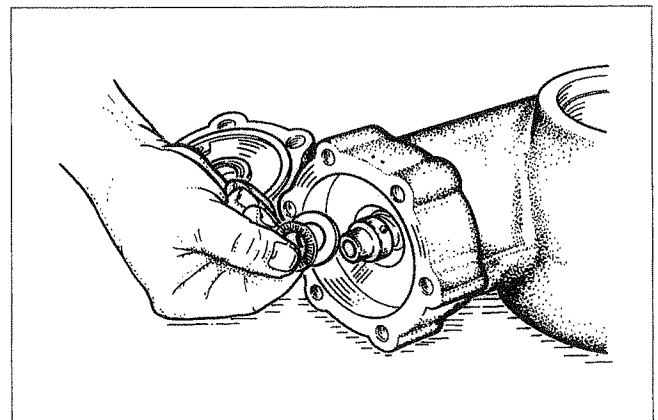
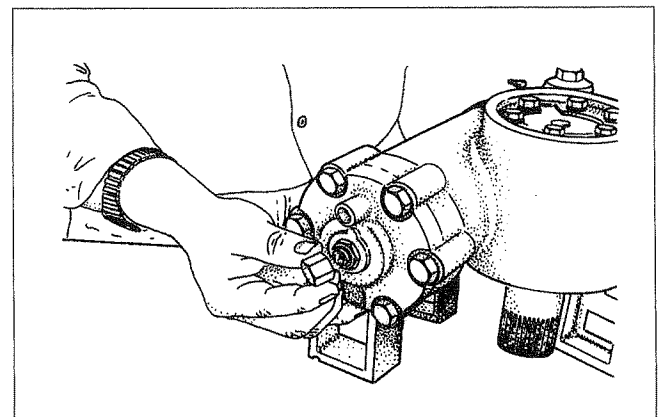

Figure 46
Figure 47
3. For that, unscrew the cover of the adj. screw. Unscrew the locknut of the adj. screw (Figure 46 and Figure 47).